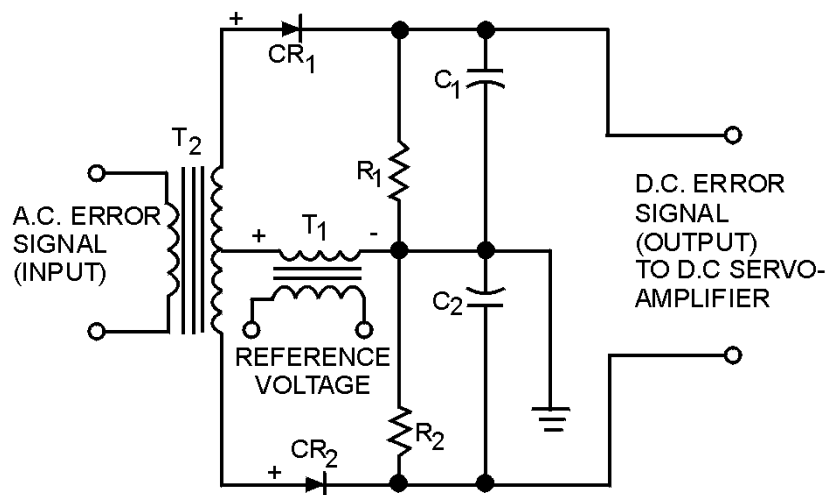

Figure 2-18.—Diode demodulator.
One example of a servo demodulator is the DIODE DEMODULATOR, sometimes called a phase detector, shown in figure 2-18. This circuit is used in servo systems because it not only converts ac to dc, but it is also able to distinguish the phase of the ac signal by comparing it to a reference voltage. Do not confuse this circuit with other phase detector circuits, such as those used in radar or communications systems. This demodulator (phase detector) distinguishes signals that are either in phase or  $180^\circ$  out of phase. For this reason this circuit is useful in servo systems where the ac output from the error detector (CT) is either in phase with the reference signal or  $180^\circ$  out of phase. Whatever type of error detector is used in the servo system, the reference voltage to the error detector and to the demodulator must be IN PHASE with each other for the demodulator to do its job.
As shown in figure 2-18, the anodes of the two diodes are supplied with the same reference voltage.